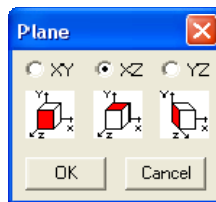

Figure 5-15 Plane dialog box
- From the Edit menu, choose Plane. The dialog box of Figure 5-15 appears.